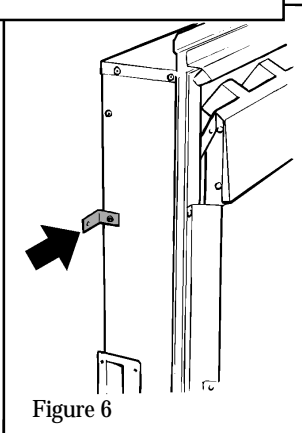

Figure 6
4.3.2 For transit purposes the wall fixing brackets are fitted to the convection box facing inwards. Remove the brackets and refit them with the long legs facing outwards (see figure 6).